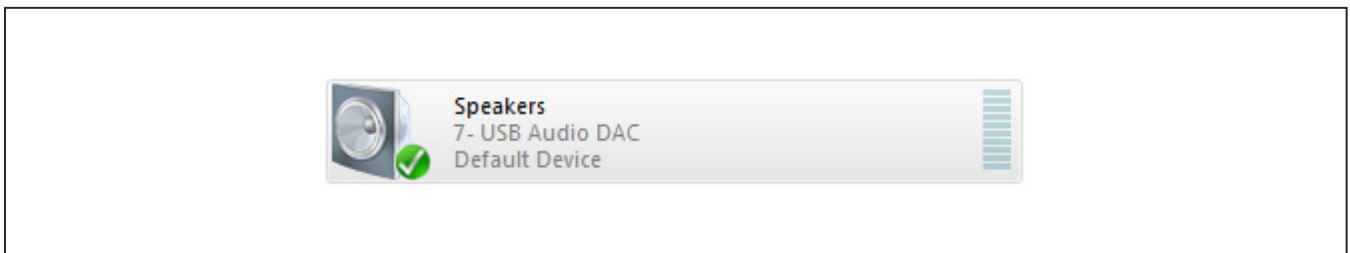

Figure 3. Playback Device
- 15) Open Windows' **Sound** dialog and select the **Playback** tab. A **USB Audio DAC** item, similar to Figure 3, is added to the list of available playback devices. All audio played through this device is sent to the EV kit.